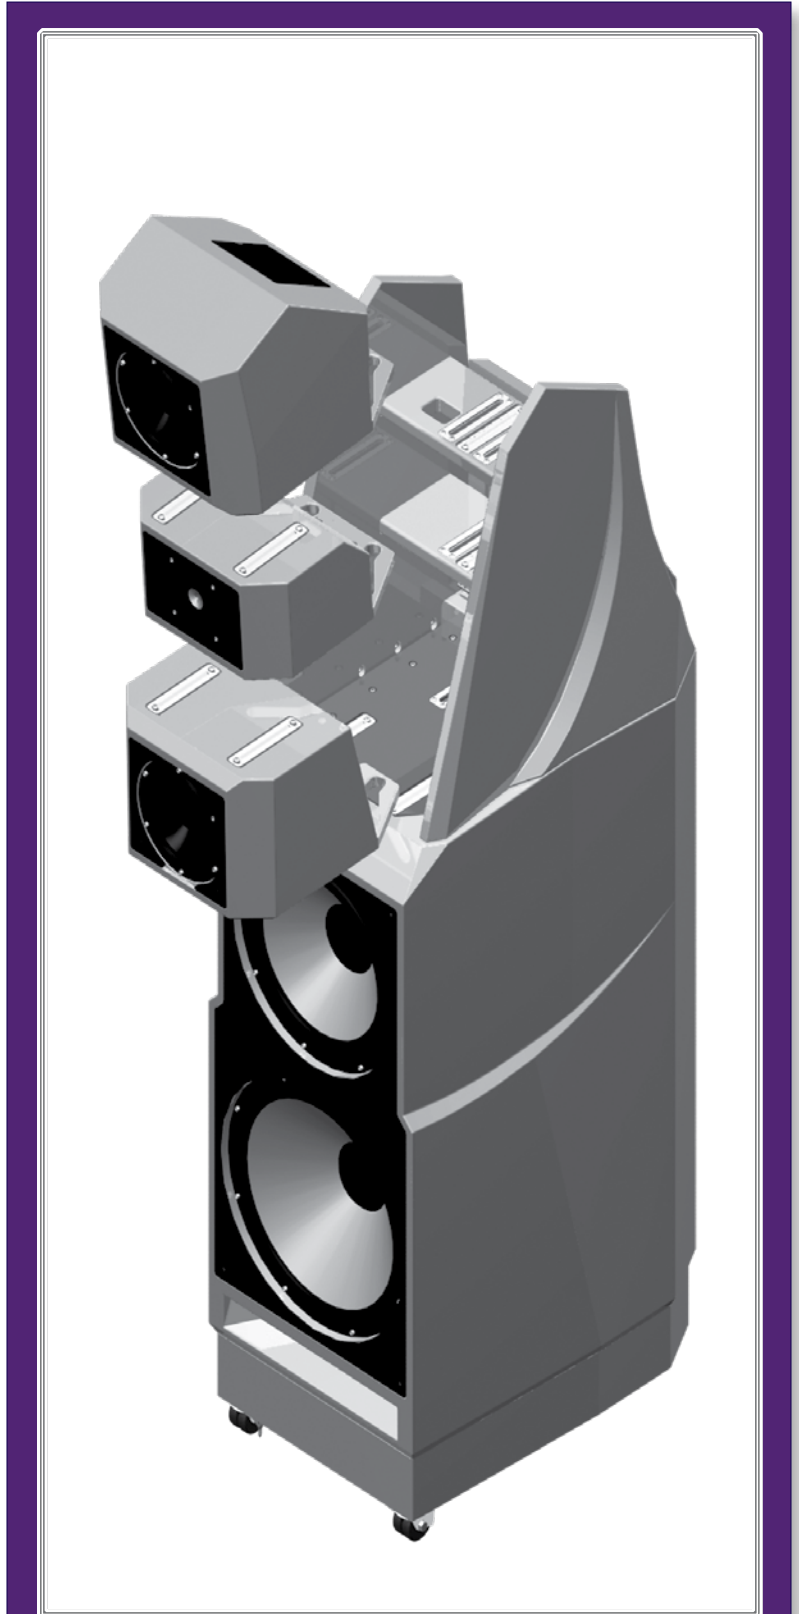

FIGURE 16 - INSTALL THE UPPER MODULES INTO THE WING ARRAY.
- With the front spikes pointing down, carefully lower the LMRM between the alignment wings and set it on top of the woofer enclosure (see Figure 16). Ensure that the tether bolts are protruding through the slots provided in the module handle. There are alignment tracks that accommodate the spikes. Refer to the Propagation Delay Table to determine the numbered indent in which to rest the rear spike.